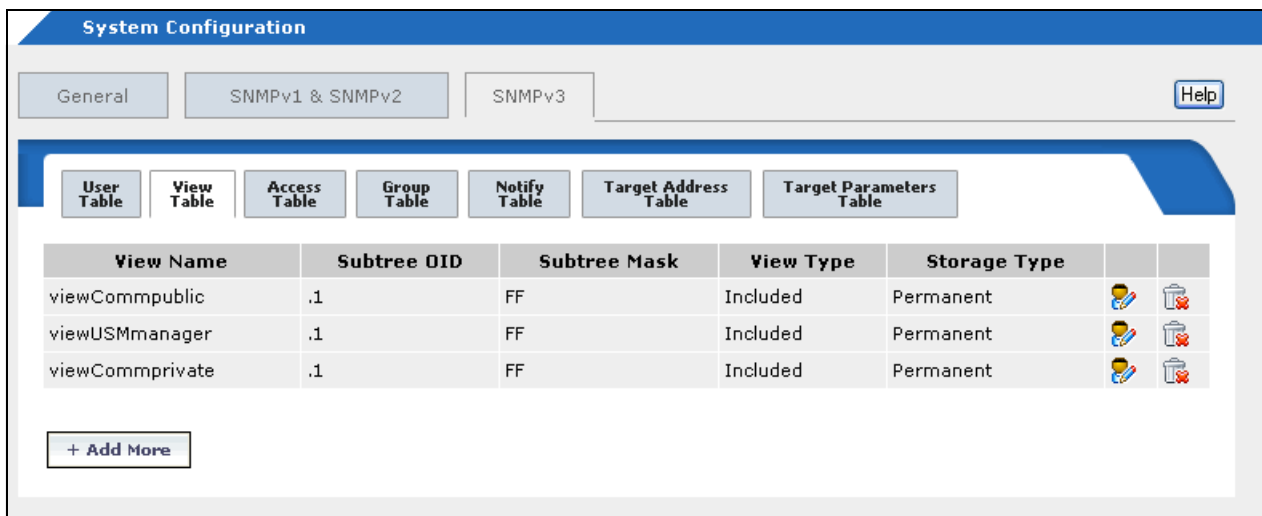

Figure 114. SNMPv3 View Table Tab
- ❑ :Click the **Configuration** button in the menu bar and then select the **SNMPv3** tab and the **View Table** tab. The SNMPv3 View Table tab is shown in Figure 114.